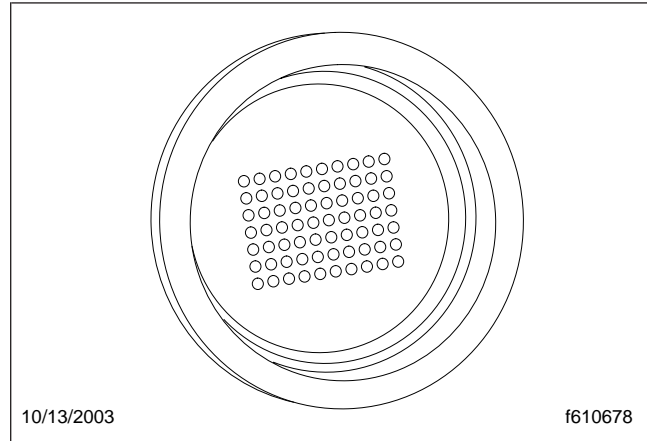

Fig. 8.8, Power Up Dot Display
3. After the ignition is turned on, the current gear indicator shows the dot display, arranged in a square pattern. All dots in the pattern should light up, without gaps or spaces. See Fig. 8.8.